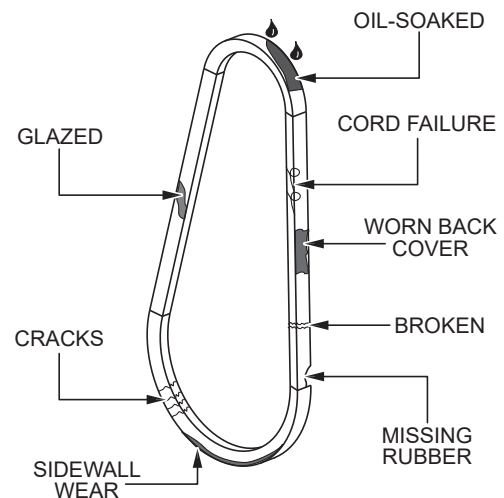

Figure 40. V-Belt Inspection
1. Inspect the V-belt (Figure 40) to determine if it is frayed, peeling, full of tiny cracks, has pieces of rubber missing, or is otherwise damaged.
2. Inspect the V-belt (Figure 40) to determine if it is oil-soaked or *glazed* (a hard, shiny appearance on the sides of the belt). Either of these conditions can cause overheating of the belt, which can weaken the belt and increase the possibility of it breaking.